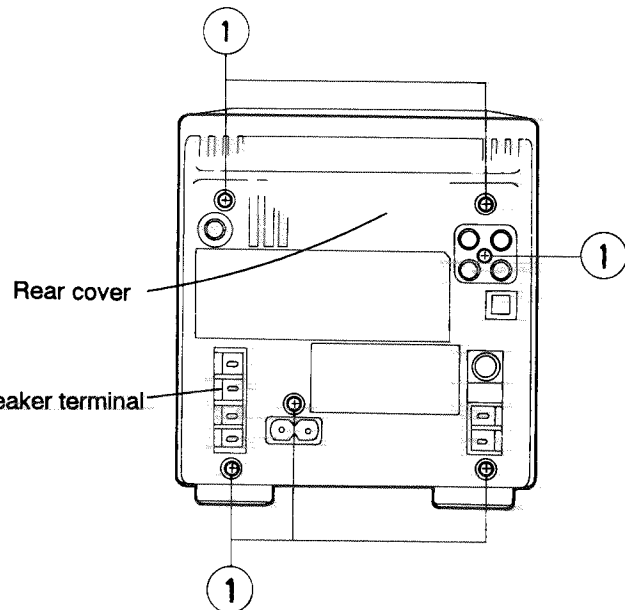

Fig. 5-1
1. • Remove the six screws ① retaining the rear cover from behind the body.
• From the bottom face of the body, remove the four screws ② retaining the rear cover.
• After passing the lock pawls at the speaker terminals through the position in Fig. 5-1, remove the rear cover.
2. • Remove the two screws ③ retaining both of the right and left side panels.